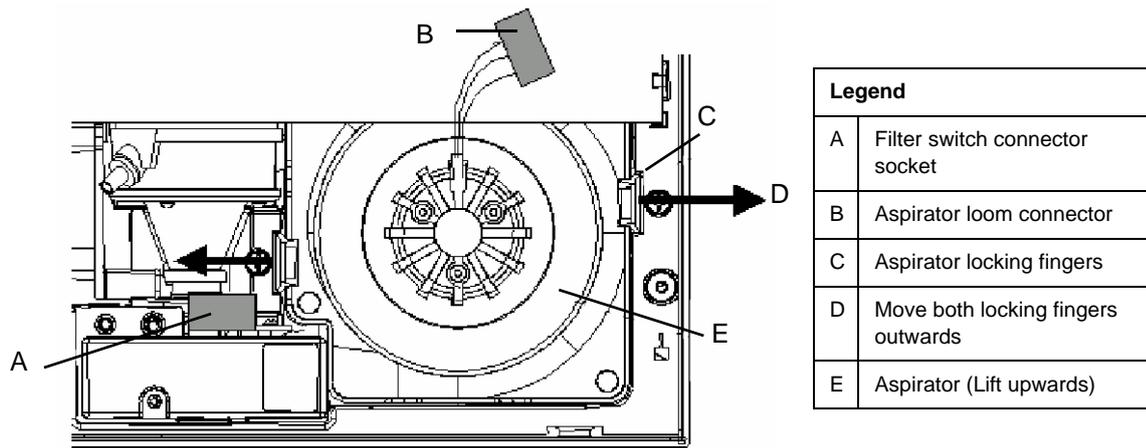
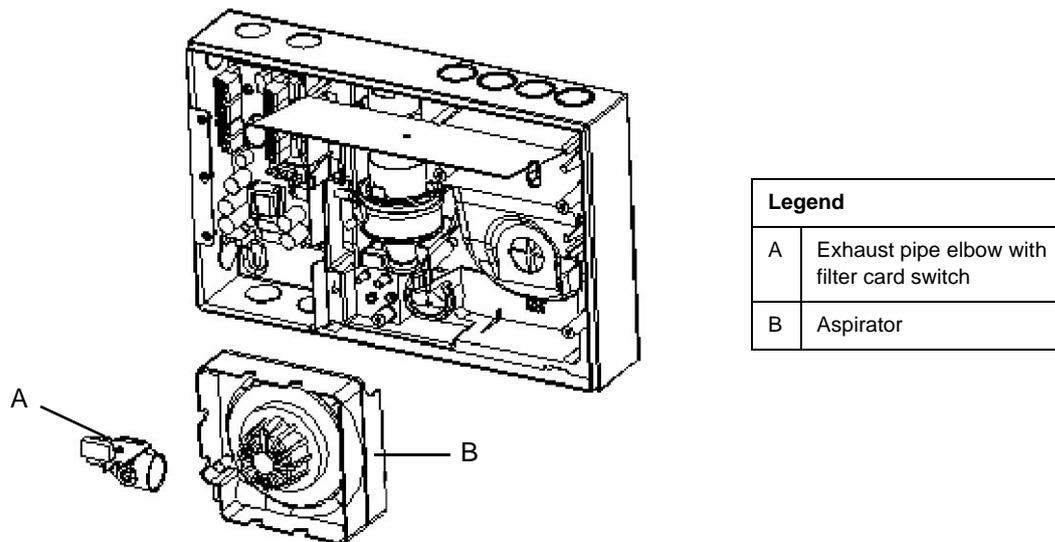

Figure 9: Removing the HPC and Disconnecting the aspirator cable loom
Figure 10: Removing the Exhaust Pipe Elbow and Aspirator
8. Locate the two plastic fingers securing the aspirator to the chassis (D) in Figure 9 above.
9. Push fingers outwards (E) and lift the aspirator out.
10. Remove the exhaust pipe elbow and filter card assembly (A) from the aspirator (B) as shown in Figure 10, "Removing the Exhaust Pipe Elbow and Aspirator," on page 18.
11. Reattach the exhaust pipe elbow and filter card assembly (A) to the aspirator (B) exhaust outlet as shown in Figure 10 above.